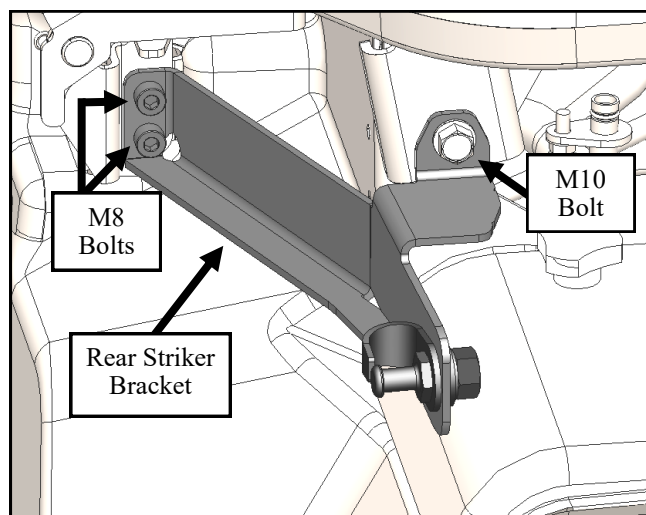

Fig. 3.3 (Install Left Rear Striker Bracket)
- 3.3 Install the provided left rear striker bracket. Loosely secure the striker bracket to the seat base pivot bracket using the provided hardware. See Fig. 3.3.
- 3.4 Use the bolt saved from step 3.1 and secure it into the seat back pivot. See Fig. 3.3.